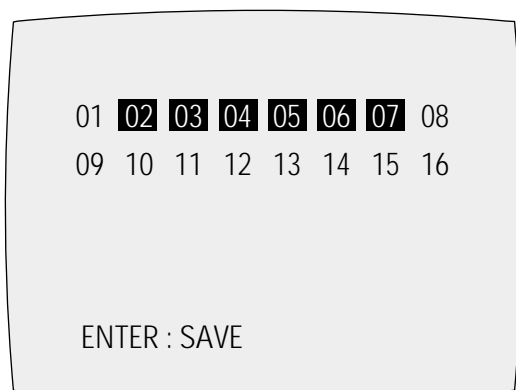

Fig. 5-17
- 2) Press the “PROG.” button of remote control about 5 seconds then option setting display is appeared. (See Fig. 5-17)
- 4) If selecting the option number is completed, press the “PLAY” button of remote control. (If “PLAY” button is pressed, the selected number is changes reversed color. ; See Fig. 5-17)